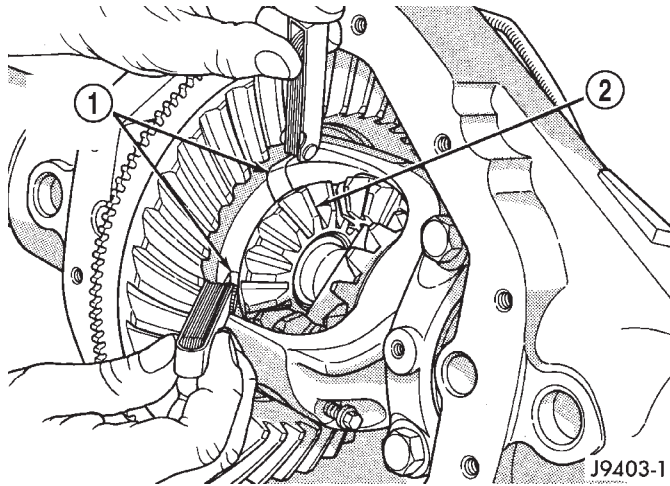

Fig. 60 Side Gear Clearance Measurement
(1) Install the axle shafts and C-locks and pinion mate shaft.
(2) Measure each side gear clearance. Insert a matched pair of feeler gauge blades between the gear and differential housing on opposite sides of the hub (Fig. 60).
(3) If side gear clearances is no more than 0.005 inch. Determine if the axle shaft is contacting the pinion mate shaft. **Do not remove the feeler gauges, inspect the axle shaft with the feeler gauge inserted behind the side gear.** If the end of the axle shaft is not contacting the pinion mate shaft, the side gear clearance is acceptable.